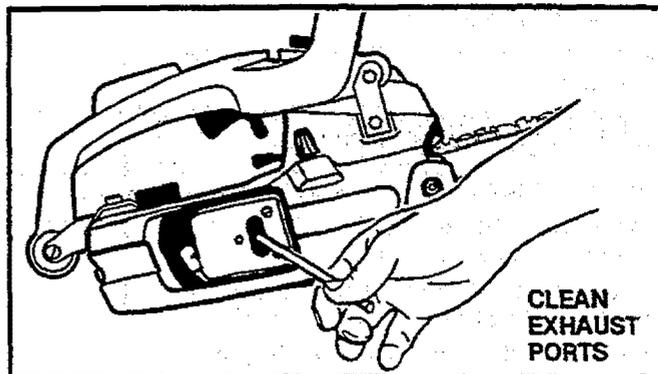

Figure 44
- d. Scrape the carbon deposits from the exhaust ports and surrounding exhaust chamber using a hardwood stick. Figure 44.